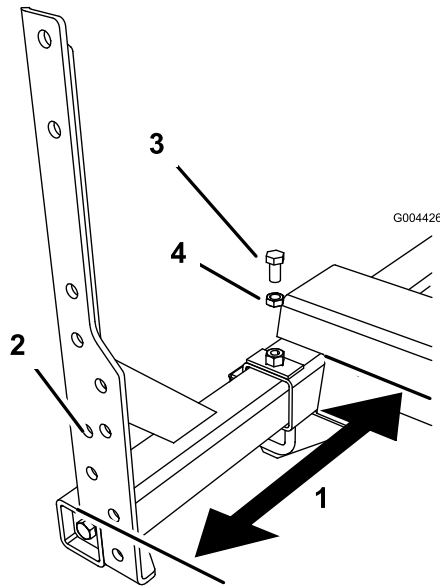

Figure 7
- A. For 1200 series turf sprayers, insert the upright into the frame until the end of the frame is 19-1/4 inches from the base of the axle housing on the frame (Figure 7).